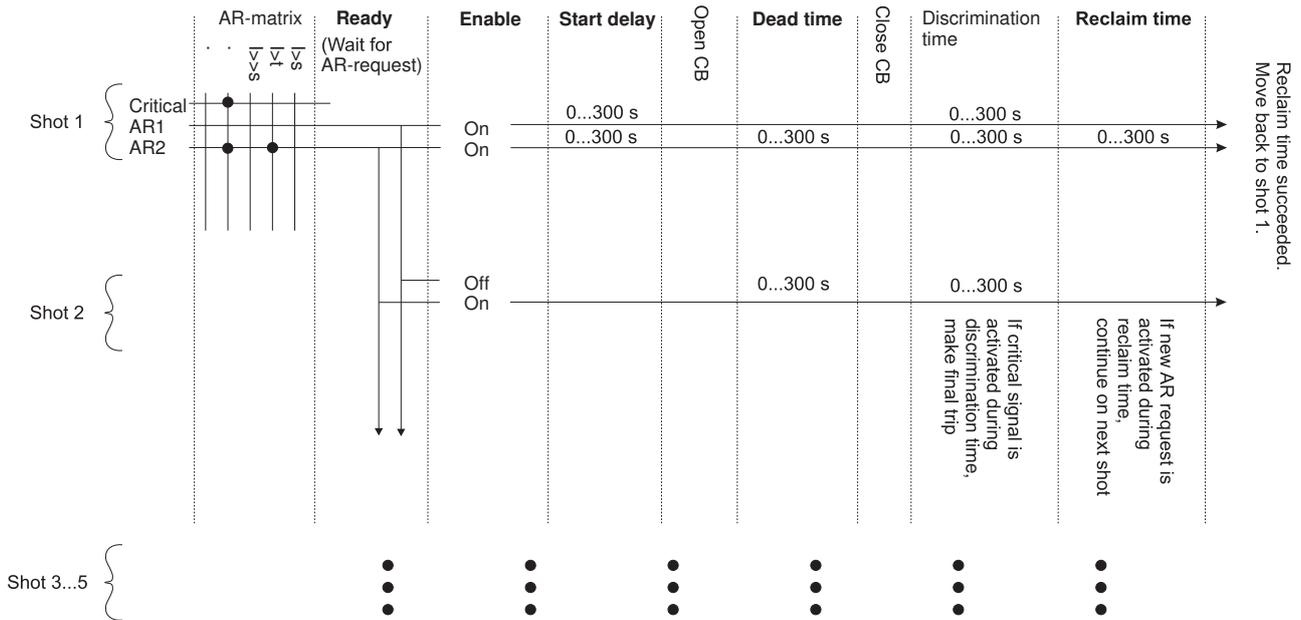

Figure 8.5: Auto-reclose matrix
The auto-reclose (AR) matrix in the following Figure 8.5 describes the start and trip signals forwarded to the auto-reclose function.